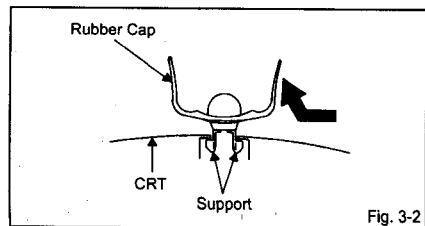

Fig. 3-2
- Flip up the sides of the Rubber Cap in the direction of the arrow and remove one side of the support. (Refer to Fig. 3-2.)